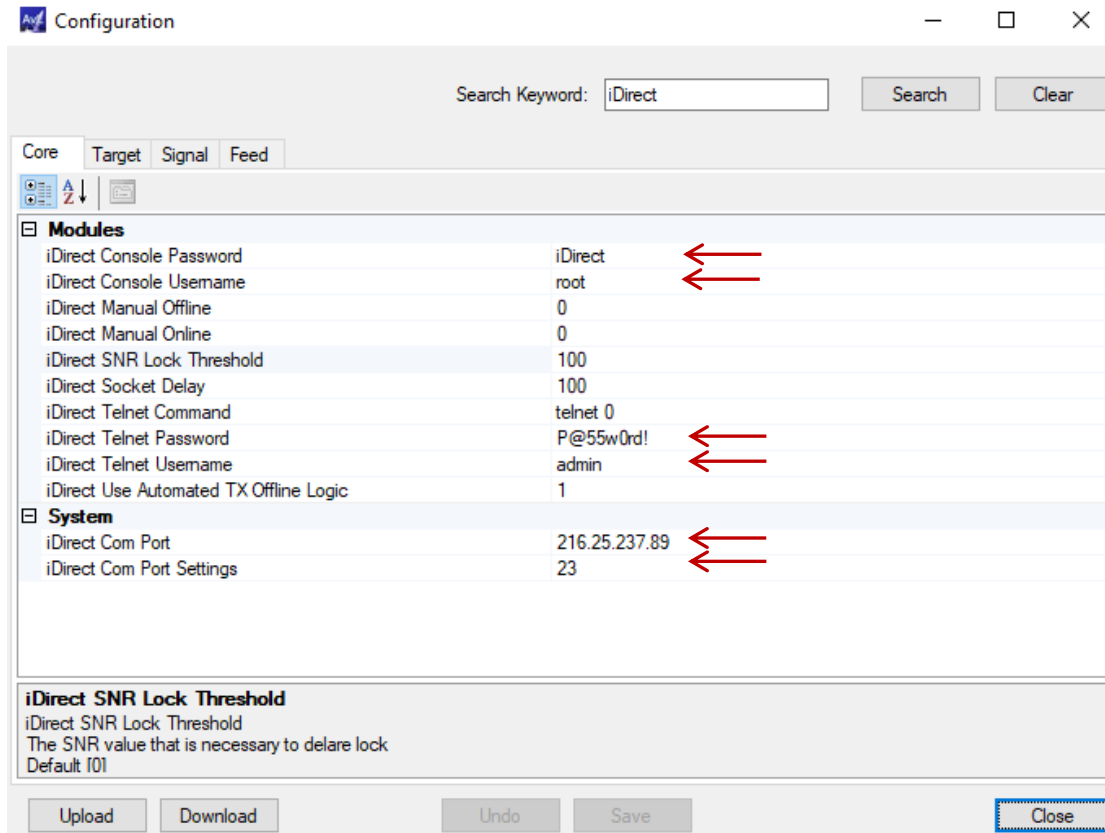

Figure 5 - Core Configuration Window, System Configuration
- Figure 5 - Core Configuration Window, System Configuration 6